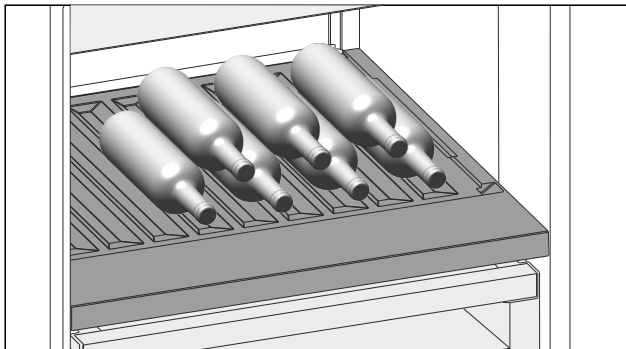

Fig. 148 Example illustration
- Place bottles in the back row with their bases against the back wall. (see Fig. 148)